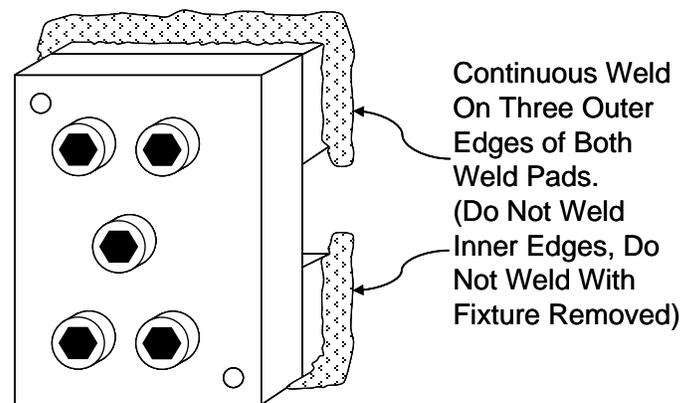

Figure 73: Weld Pad Welding Technique
- 5) Hold the alignment/clamping fixture firmly on the mounting area in the direction of tension or compression of the structural member or, alternatively, drill a 5/8" deep hole through the center hole of the alignment/clamping fixture, tap for 1/4 x 28 threads, and bolt the alignment/clamping fixture to the mounting area through the center hole. Tack weld both sides of each intermediate pad to the mounting surface first, then continuously weld the outer ends and sides of the intermediate pads to the mounting surface, as shown in Figure 73.